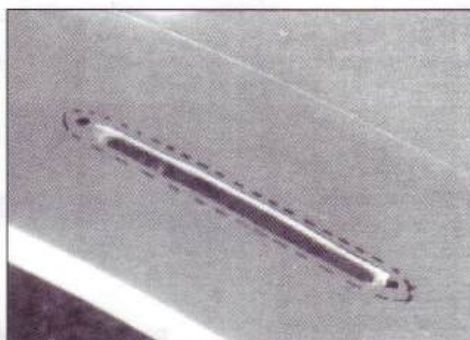

Fig.4a. Mark and cut slot for vent
1. Cut slots in the scuttle (fig.4a.) to suit the vent aperture. The ideal position for the slot is 270mm inward from the centre of the windscreen leg mark and 65mm forward of the scuttle edge as shown in fig.4b.